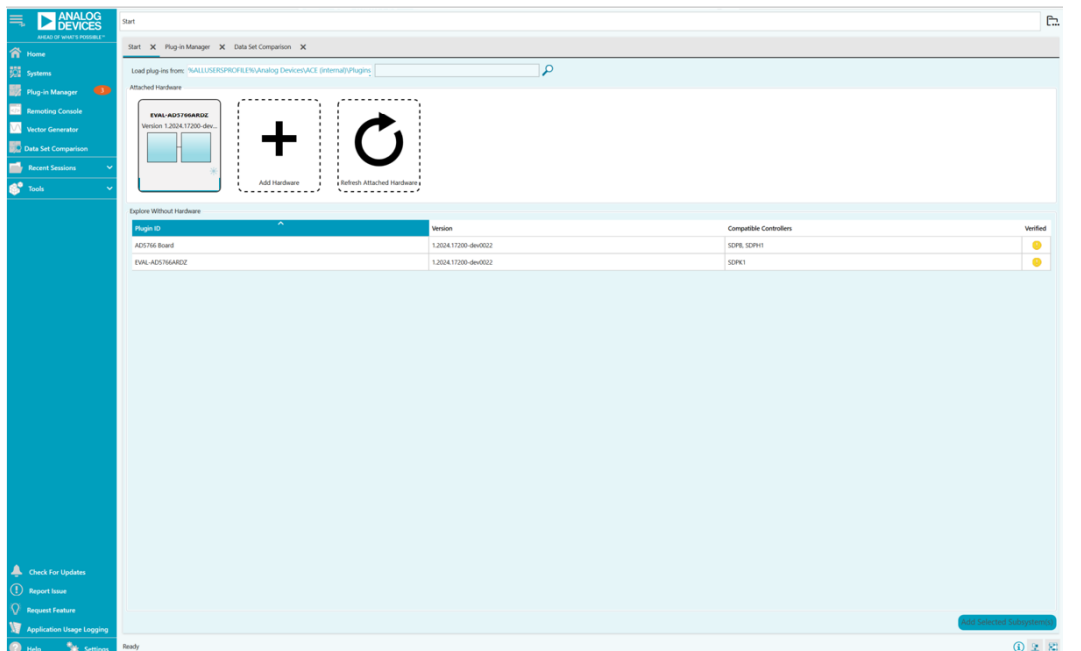
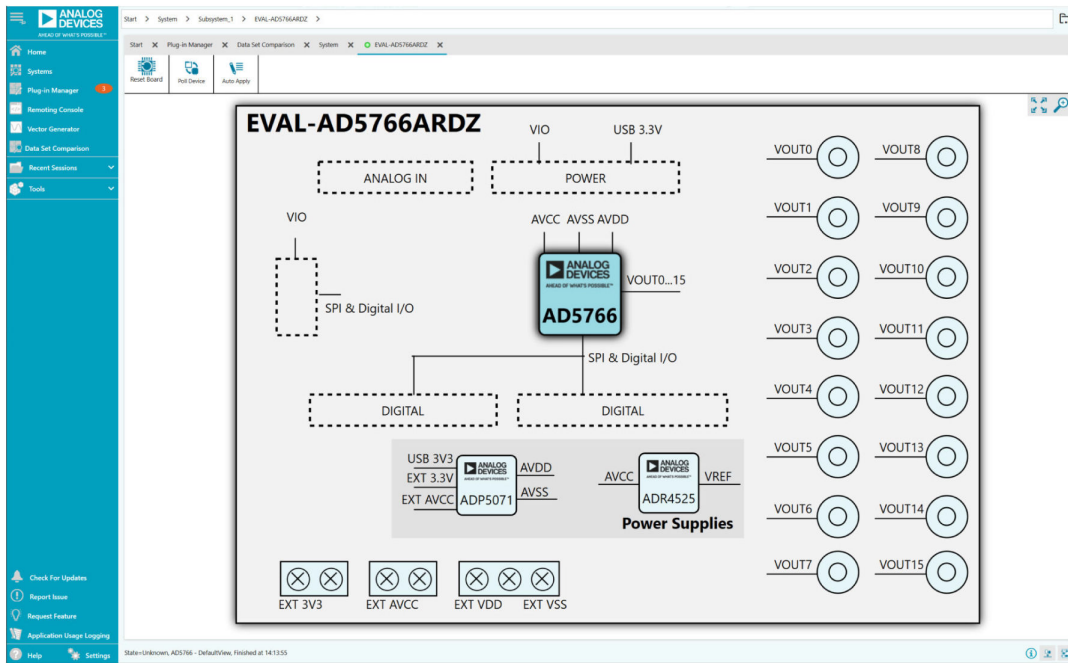

Figure 4. Start Tab for the EVAL-AD5766ARDZ ACE Software
Figure 5. AD5766 Board Tab for the EVAL-AD5766ARDZ ACE Software
1. To launch the **ACE Software**, click **Start > All Programs > Analog Devices > ACE**. The **ACE Software** then opens in the **Start** tab and recognizes the EVAL-AD5766ARDZ. Note that the interface is the same for the EVAL-AD5767ARDZ, except for the board name (see Figure 4).
2. Double click the **EVAL-AD5766ARDZ** icon under the **Attached Hardware** section to open the **EVAL-AD5766ARDZ** tab (see Figure 4 and Figure 5).